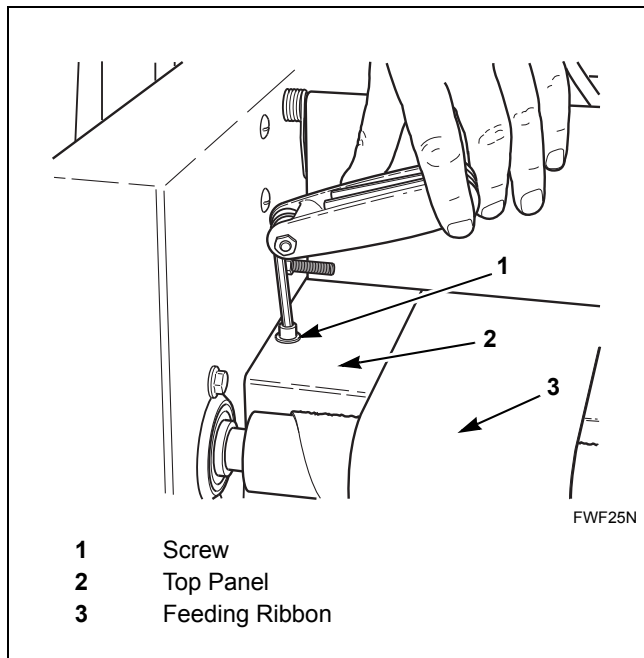

Figure 26
- Remove screw from left side of top panel (behind feeding roller). Refer to *Figure 26*.